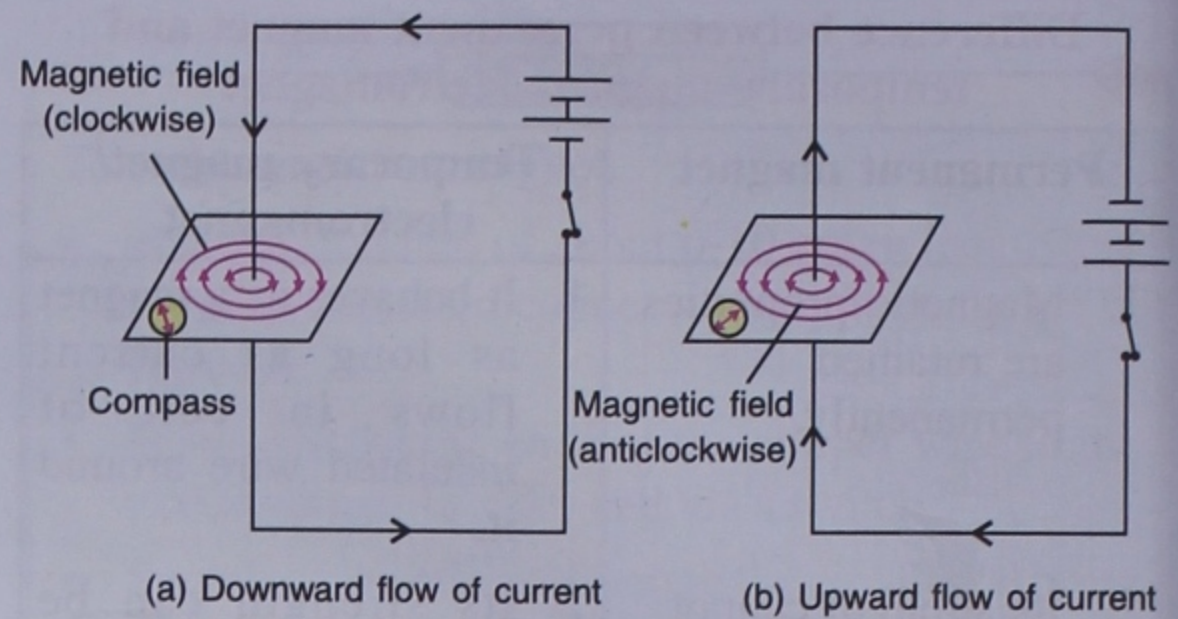

Fig. 13.7 Lines of force due to a current carrying straight conductor
- If electric current flows downwards, the direction of magnetic field is clockwise [Fig. 13.7(a)] from above.
- If electric current flows upwards, the direction of magnetic field is anticlockwise [Fig. 13.7(b)] from above.